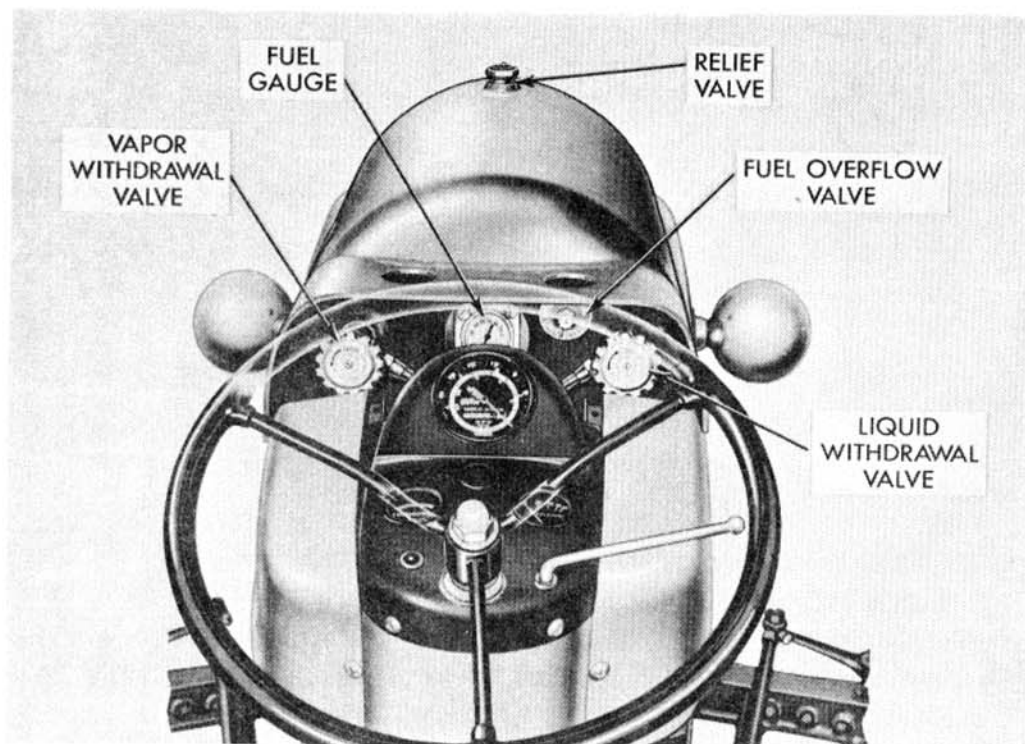
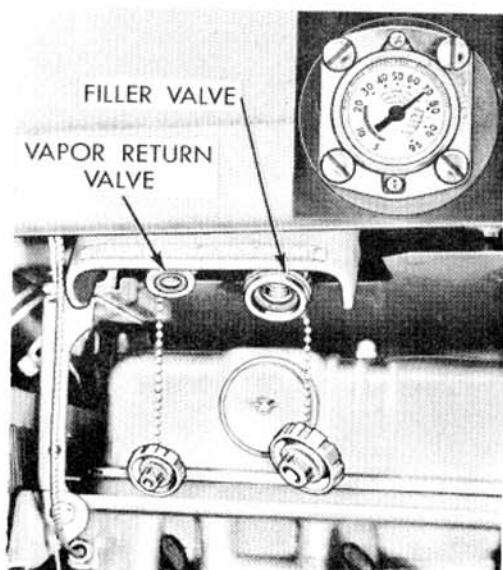

Figure 1
Figure 4
Fuel Level Overflow Valve: This manually operated valve, located next to the liquid withdrawal valve (see Figure 1), should be opened only occasionally during tank filling operations as a check to determine when the liquid volume has reached an 80 percent level in the tank.
Fuel Tank Relief Valve: This relief valve (see Figure 1) is located on the top of the tank, at the forward end and functions as a safety valve against excessive tank pressures. It is factory set at 312 pounds per square inch and should not be tampered with.
Auxiliary Fuel Connection: This connection (see Figure 1) located in the tank line, just behind the fuel filter, is used for attaching portable LP-Gas bottles. A portable bottle may be used when it is not convenient or desirable to fill the tractor fuel tank. The liquid and vapor withdrawal valves at the rear of the tractor fuel tank should be closed and the engine operated until the fuel is exhausted. Then, remove the auxiliary fuel connection cap. These valves should remain in the closed position when operating the tractor from a portable bottle.
3. When the fuel gauge indicator needle (see insert, Figure 4) shows that the tank is approximately 75 percent full, open and close the fuel overflow valve, Figure 1, at intervals until liquid fuel appears. This will indicate that the tank has an 80 percent liquid fill. Close the valve as soon as liquid appears.